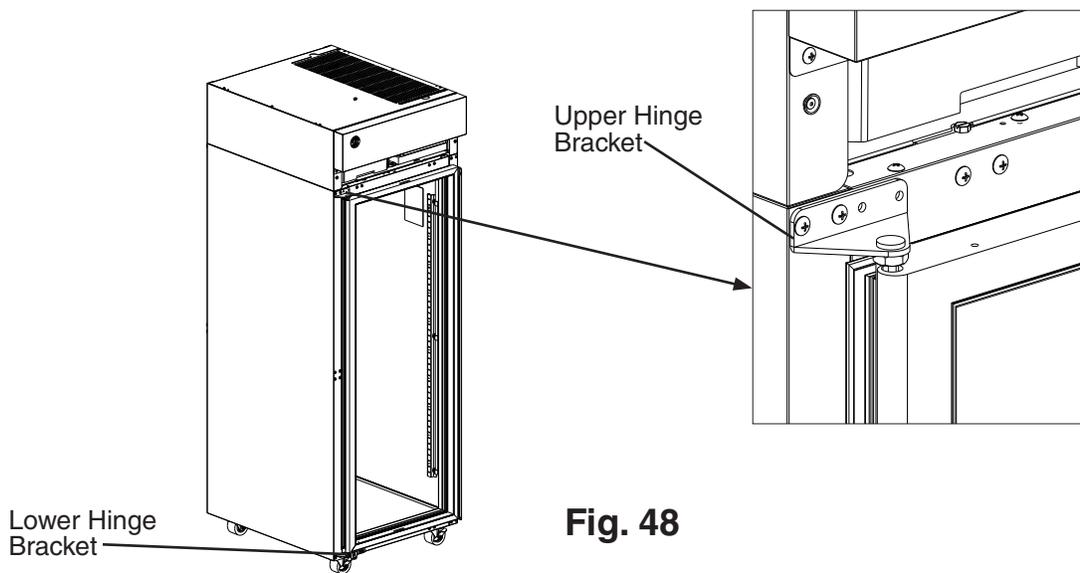

**Fig. 46**
- 14) Remove the upper and lower hinge brackets from the door. See Fig. 46.